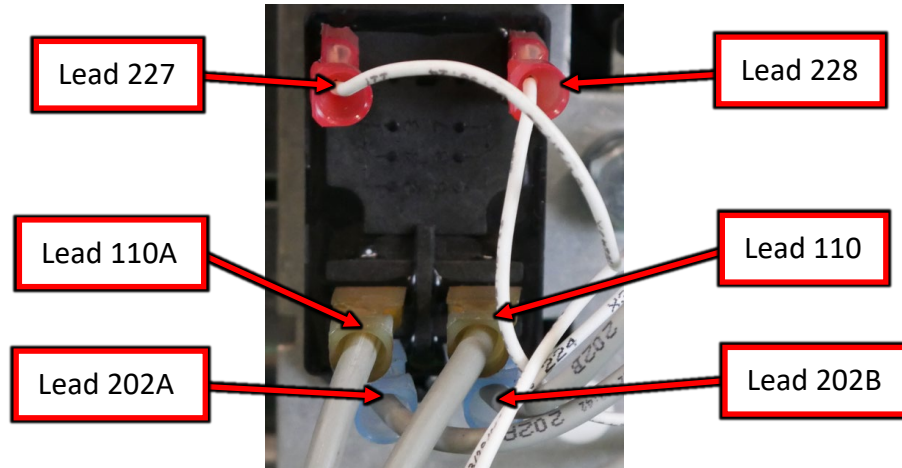

Figure F.2
A.2. Label and disconnect the following connections, refer to Figure F.2.
A.3. Perform the static measurements in Test Table 1, refer to Figure F.2 for test point locations. NOTE: MEASUREMENTS ARE MADE ON THE TERMINALS NOT THE LEADS.